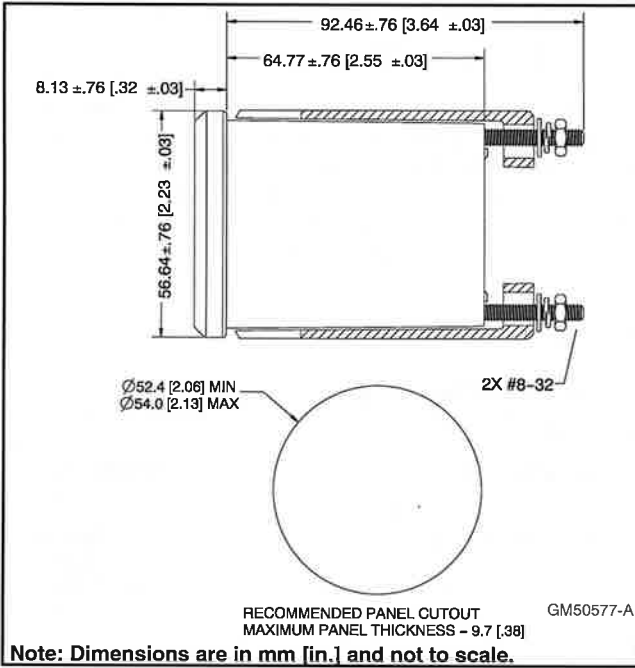

Figure 4 Two Inch Digital Gauge Mounting Dimensions
2. See Figure 4 for the gauge mounting dimensions.